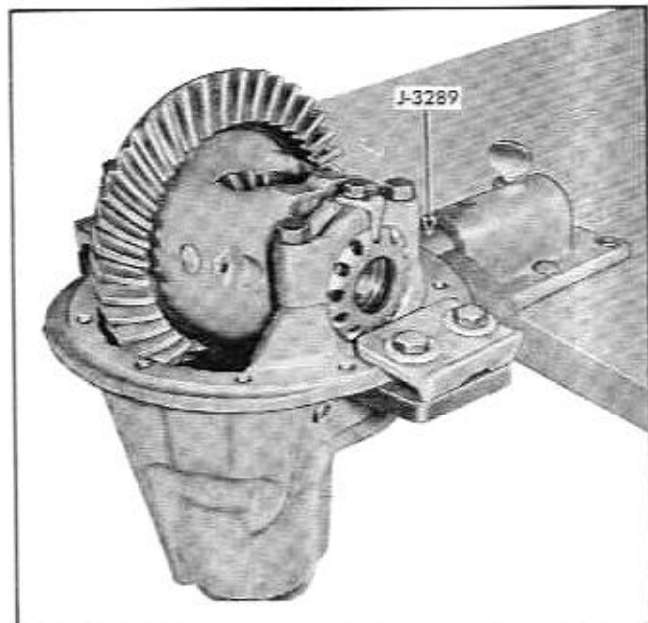

Fig. 4-12 Differential Mounted in Carrier Fixture J-3289
1. Wash interior parts of assembly with cleaning fluid and mount in Carrier Fixture J-3289 (Fig. 4-12).